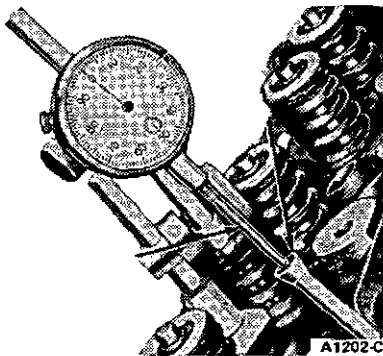

FIG. 3 Typical Camshaft Lobe Lift Hydraulic Valve Lifters — V-8 Engines
2. Remove the valve rocker arm shaft assembly(ies) and install a solid, tappet-type push rod in the push rod bore of the camshaft lobe to be checked or use the adapter for ball end push rods shown in Figure 3.